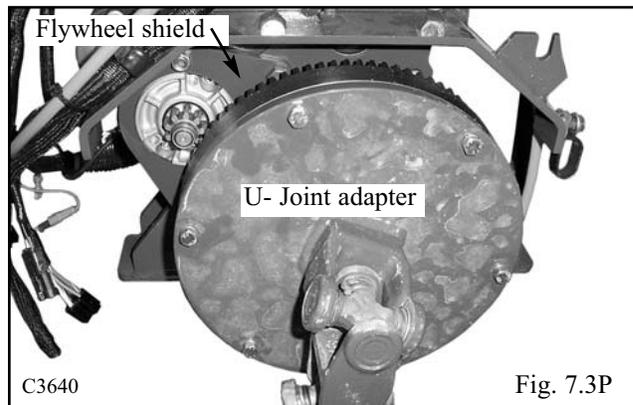

Fig. 7.3P
- 2 Install the engine U- Joint adapter. (Fig. 7.3P) There are 6 bolts holding the adapter to the engine flywheel. Note that 2 of the bolts are longer than the rest. These 2 bolts must be used in the counter sunk holes in the engine flywheel. Torque the adapter bolts 20 ft / lbs. (27.2 Nm)
- 3 Install the flywheel shield to the rear of the engine block. (Fig. 7.3P)